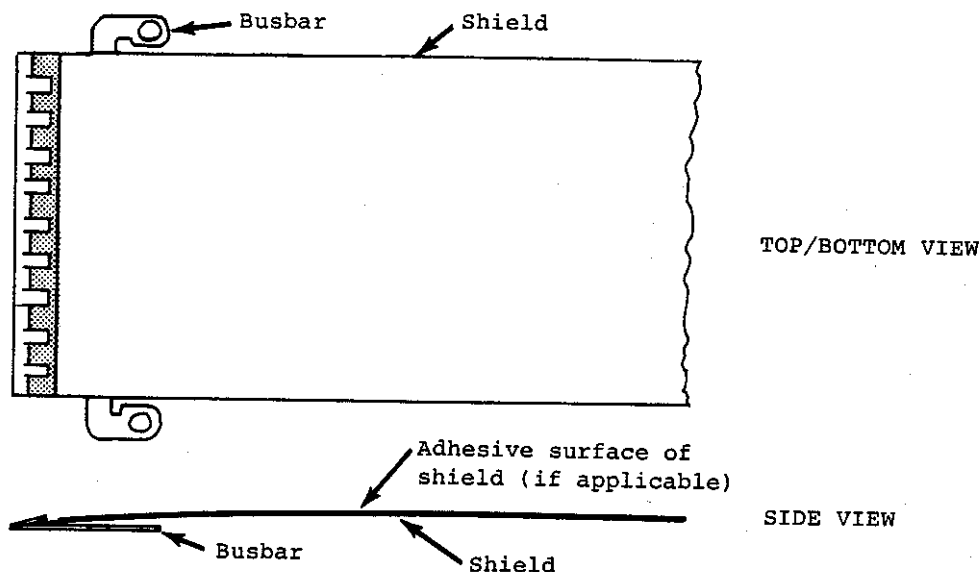

Figure 8-5. Installing Busbar onto Shield
2. Install the busbar on the end of the shield (Figure 8-5).